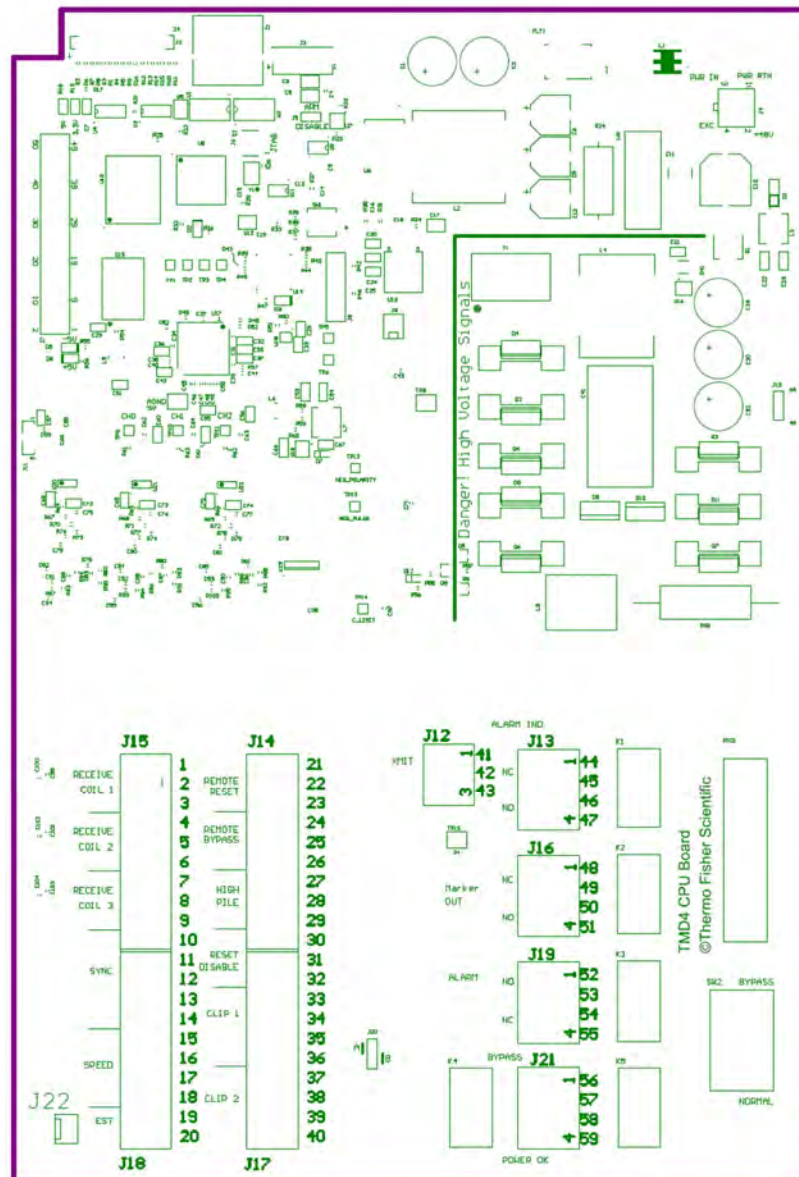

Figure 2-1. Terminal Block Locations on the CPU board
- High voltage (>30 V) and low voltage (< 30 V) cables must be routed through different areas of the control unit enclosure (see Figure 2-1).
Follow all cable number specifications on the Field Wiring Diagram in the Appendix when connecting wiring to the CPU board. Figure 2-1 shows the locations of the terminal blocks.
1. Route incoming connections at line voltages above 30 V through a conduit hole in the bottom right of the enclosure so that they are protected by the power cover. Leave enough loose wiring (about 20 cm or 8 in) to allow the board to be moved without having to disconnect wires. Connect all alarm and indicator output wiring to the appropriate terminals (see Figure 2-1).
3. Route incoming connections at voltages below 30 V through a conduit hole on the bottom left of the enclosure (see Figure 2-1).
4. Connect all coil cables, detector wiring, control wiring and communications cables to the appropriate terminals on J-14 through J-21 (see Figure 2-1), in accordance with Field Wiring Diagram in the Appendix.